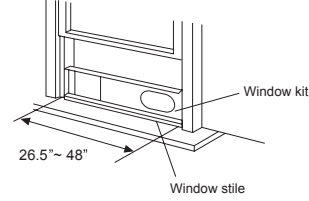

Fig. 11
2. Attach the window slider kit to the window stool. Adjust the length of the window slider kit according to the width of window, short the adjustable window kit if the width of window is less than 27 inches. Open the window sash and place the window slider kit on the window stile. Fig.11